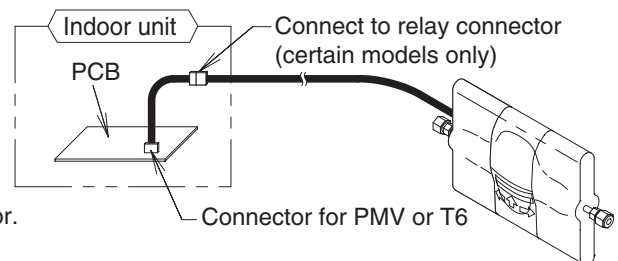

Fig. 2-285
- (4) Open the electrical component box. From the control PCB, disconnect the connector to the indoor unit internal electronic expansion valve. (This step is unnecessary if the model does not have an electronic expansion valve.)
- (5) Connect the external electronic expansion valve. (Fig. 2-285)